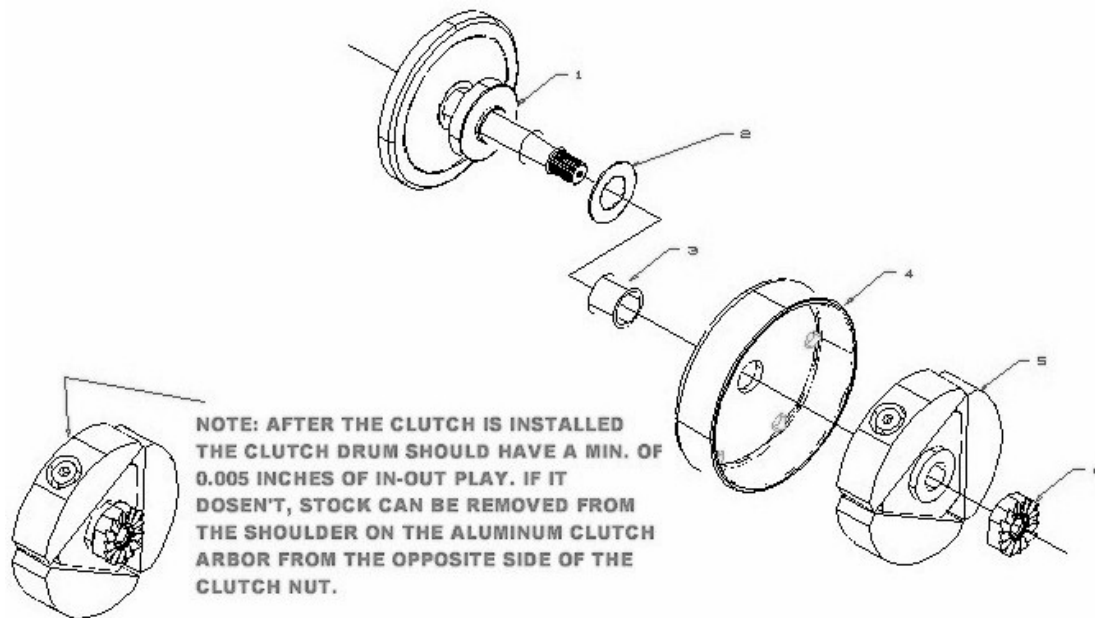

Figure 39, Clutch Assembly Drawing
1. Remove the coolant drain plug (A) on the front of the engine case (figure 39).